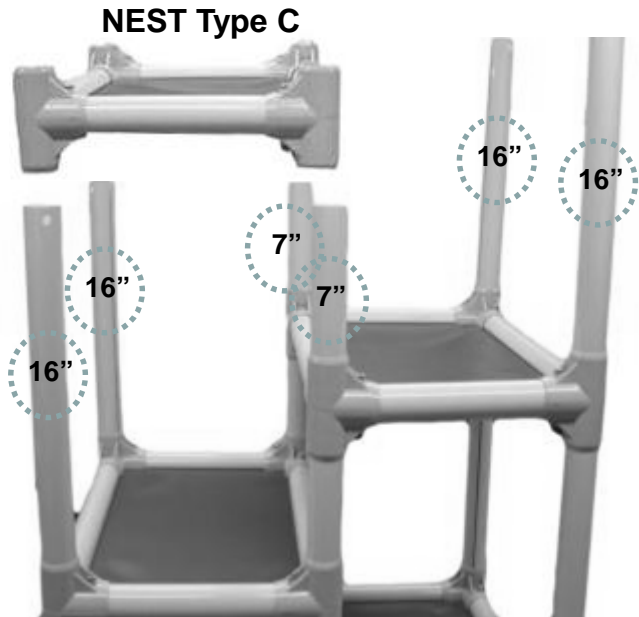

Fig. 3 -B
Continue to stack the nests and build the tower by Inserting (2) 7" legs into the center openings, and (2) 16" legs onto both of the outside corners of the tower. Add each Nest type C tapping as necessary to secure and level each nest into place. See Fig 3-B